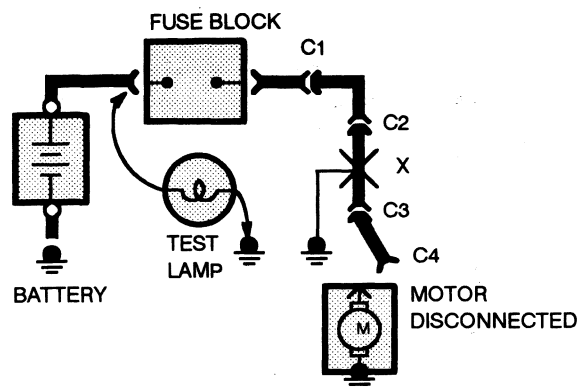

Figure 5 – Short Check
A fuse that repeatedly blows is usually caused by a short to ground. It's important to be able to locate such a short quickly (Figure 5).
- Motors: disconnect motor connector (Connector C4 in Figure 5).
5. Disconnect the test lamp lead that is connected to ground, and reconnect it to the load side of the fuse at the connector of the disconnected component. (In Figure 5, connect the test lamp lead to connector C4.)
- If the Test Lamp goes on, the short is in the wiring. You must find the short by disconnecting the circuit connectors, one at a time, until the Test Lamp goes out. For example, in Figure 5 with a ground at X, the bulb goes out when C1 or C2 is disconnected, but not after disconnecting C3. This means the short is between C2 and C3.